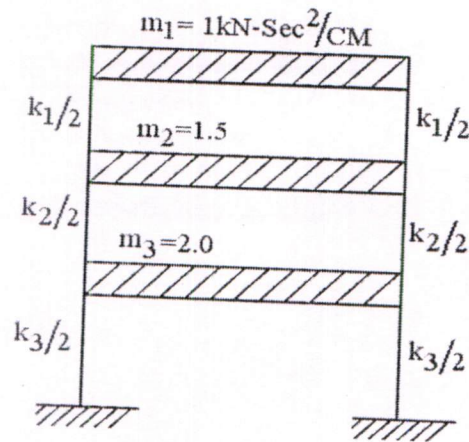

Fig. 1
13. B). Determine the fundamental frequency of vibration and the corresponding mode shapes for the three storied building as shown in Fig. 1. The stiffness of the columns are as given below. 10M